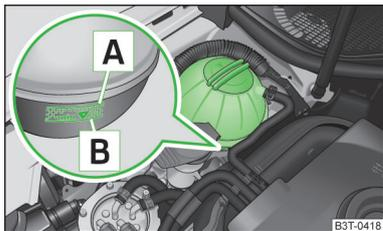

Fig. 129
When refilling, only use the same antifreeze identified on the coolant expansion vessel » Fig. 129 on page 144.
- Do not fill the coolant above the mark **A** » Fig. 129 on page 144.
The coolant expansion bottle is located in the engine compartment » Fig. 129.
Explanation of graphic » Fig. 129
- › Check the level of coolant at the coolant expansion vessel » Fig. 129.
If the engine is warm, the test result may be inaccurate. The stand can also be above the mark **A** » Fig. 129 .